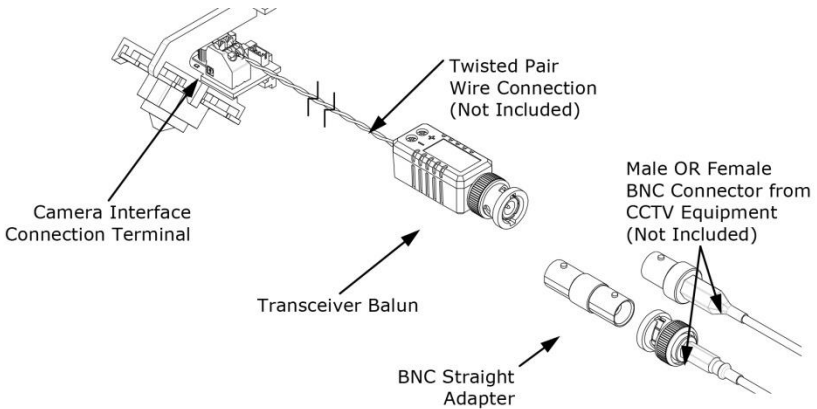

Figure 33. Connecting the Camera
- CONNECT the camera to the security system with a two-wire (twisted pair) from the two-position interface board terminal block to the included video transceiver balun (see Figure 33).